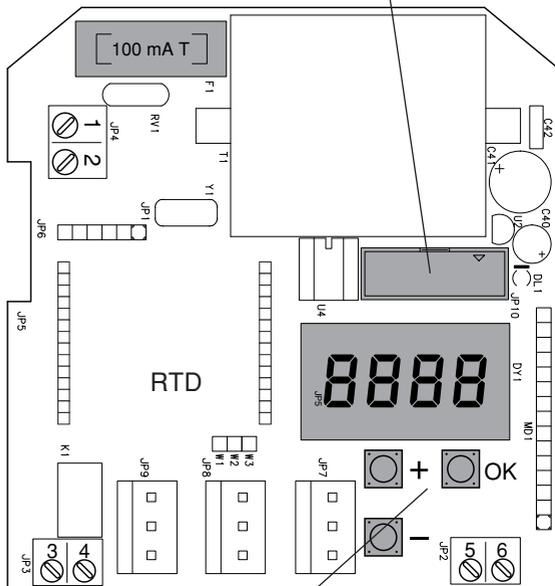

Fig. 1
**MOP (Fig.1)**
**3) SCHEMA DI COLLEGAMENTO (Fig.1)**